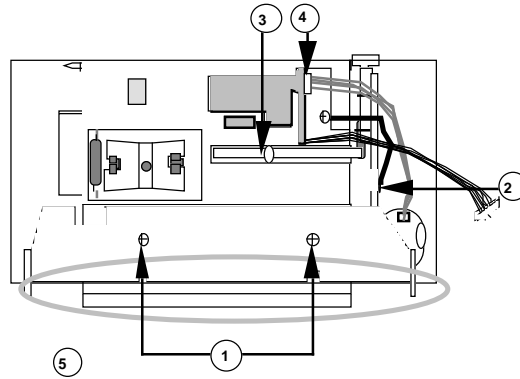

FIGURE 3
2. Remove the two screws (Figure 3, #1) that hold the frame assembly together.
3. Remove the grounding screw (Figure 3, #2) attached to the frame assembly.
4. Remove the lever lock (Figure 3, #3) attached to the spring.
5. Remove the connector (Figure 3, #4) that runs from the PCB to the stepper motor.